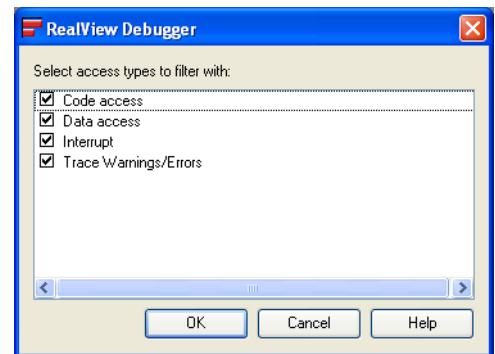

Figure 9-17 Filtering on an access type match
1. Select **Filter** → **Filter on Access Type...** from the Analysis window menu to open the List Selection dialog box. Figure 9-17 shows an example: